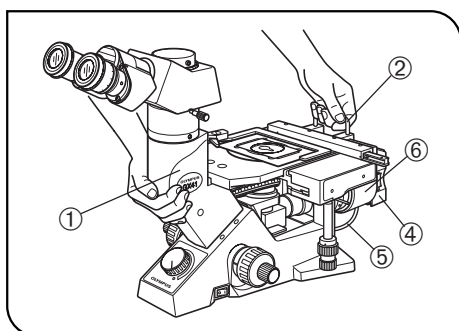
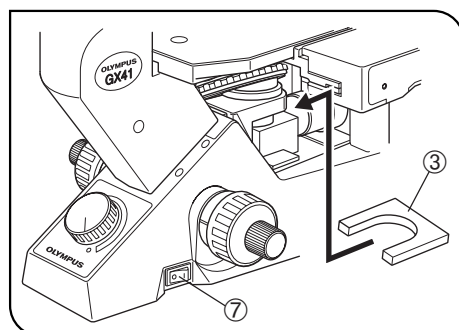

Fig. 1
Fig. 2
2. When transporting the microscope, always hold the observation tube support ① and the stage handle ② using both hands. (Fig. 1)
★ If the microscope is dropped under this condition, the focusing mechanism may be damaged. To prevent this, insert the provided protection pad ③ below the revolving nosepiece and fix the pad using the coarse adjustment knob. (Fig. 2)
3. The surface of the lamp socket ④ on the illumination unit can get extremely hot. Make sure you leave a space of 10 cm or more around the lamp socket, especially above and behind it, to dissipate heat. (Fig. 1)
4. When installing the microscope, route the power cord and lamp cord ⑤ away from the lamp socket ④ and illumination unit ⑥. Otherwise, the power cord and lamp cord coverings may melt.
5. To avoid potential shock hazards and burns when replacing the bulb, make sure that the main switch ⑦ is set to "○" (OFF), the power cord is unplugged from the outlet, and that the lamp and the area around the lamp socket ④ have cooled sufficiently. (Fig. 2)